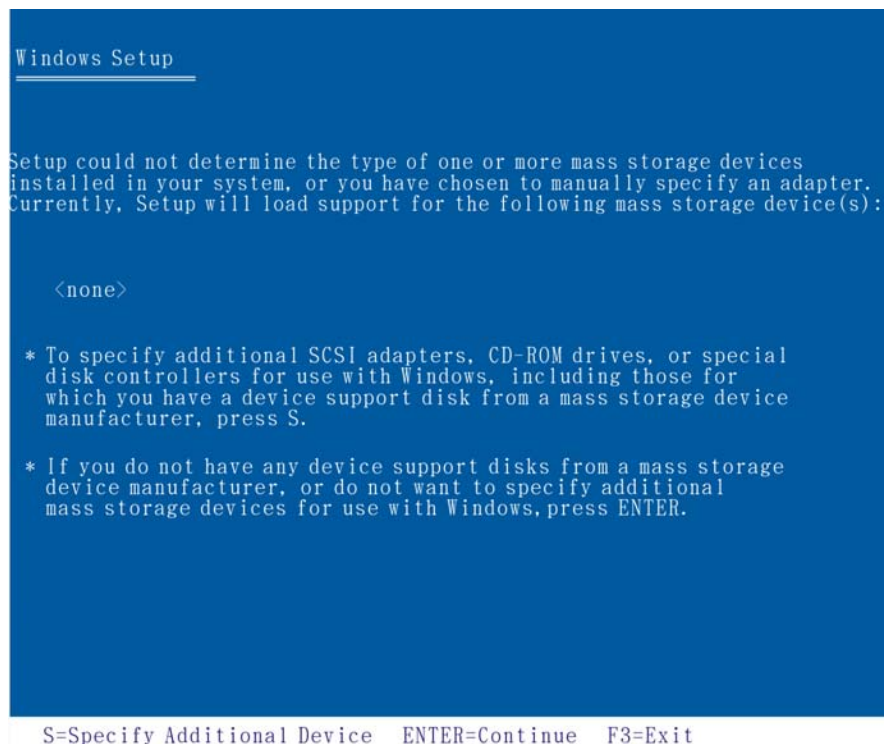

Figure 8-12: Windows Setup Screen
Step 4: The Windows Setup screen in **Figure 8-12** appears.